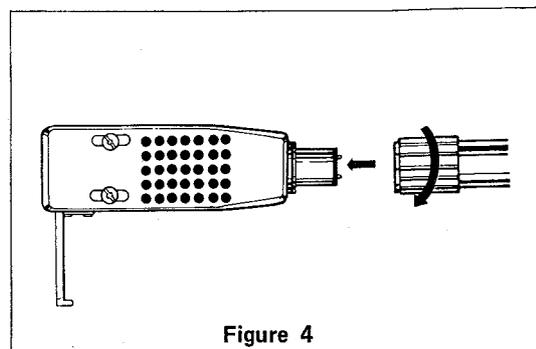

Figure 4
- (1) Next, exchange the cartridges. Figure 4 illustrates the method for removing. To replace cartridge follow in reverse order (figure 4).
- (2) Adjust the stylus pressure upon finishing the cartridge replacement.